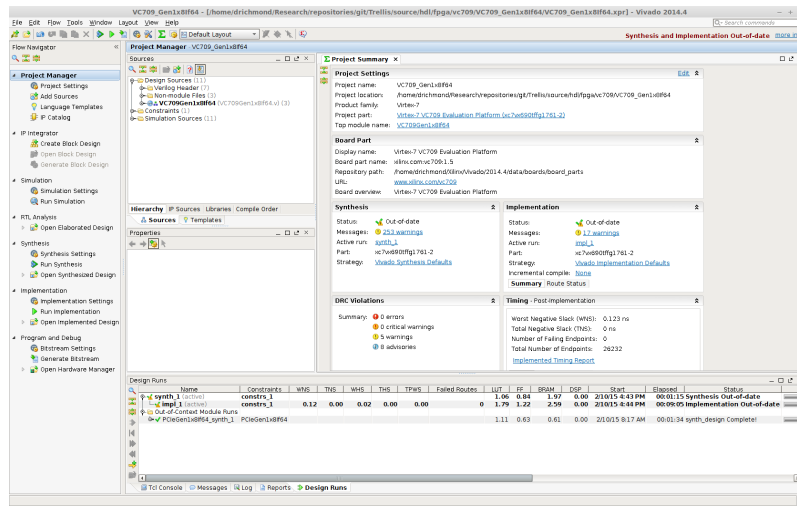
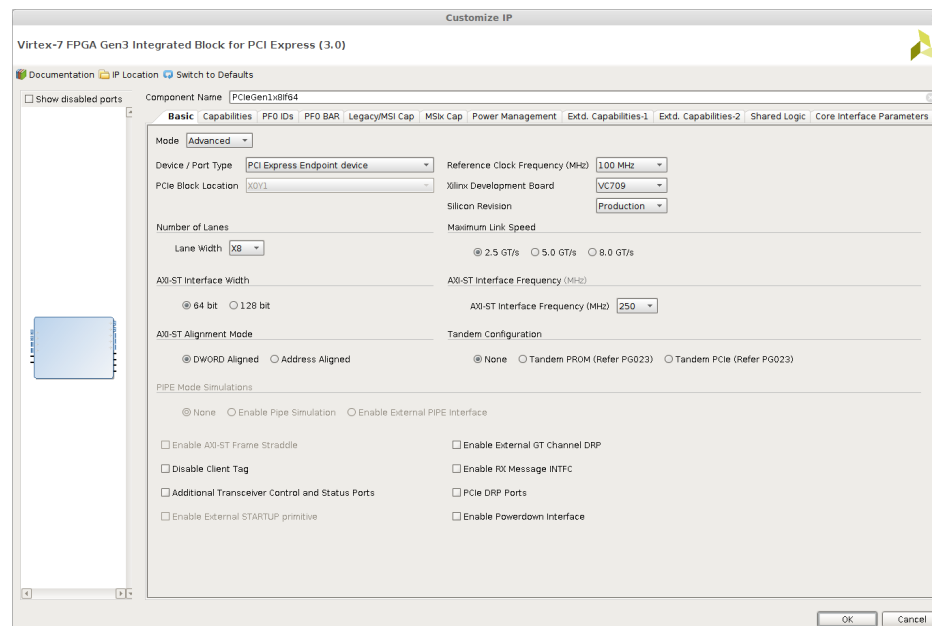

Figure 4.11: Project Splash Screen for Gen3 Integrated Block for PCI Express Projects
Figure 4.12: Basic settings tab.
3. In the RIFFA 2.2.2 distribution, open *RIFFA 2.2.2/source/fpga/xilinx/vc709/* and choose from one of the existing example design directories for your board. In the example design directory, locate the *prj* folder and open it. Select the .xpr file and click open. This will open the example project, as shown in Figure 4.11.
- To recompile the example design, click the generate bitstream button in the top left corner as shown in Figure 4.11.
To generate the PCIe IP select the 7 Series Integrated Block for PCI Express after selecting the IP Catalog shown in Figure 4.11. This will open the IP Customization window as shown in Figure 4.12
Optional: Set the Component Name of the PCI Express block, and the IP Location. In our example projects, we use the name template PCIeGen**W**x**Y**If**Z** where **W** is the PCI Express Version (**Link Speed** in Figure 4.12), **Y** is the lane width, and **Z** is the AXI interface width. The IP location is the *ip* directory in the example project.
Optional: Set the Component Name of the PCI Express block, and the IP Location. In our example projects, we typically use the name PCIeGen**W**x**Y**if**Z** where **W** is the PCI Express Version (**Link Speed** in Figure 4.12), **Y** is the lane width, and **Z** is the Avalon interface width. The IP location is the *ip/* directory in the example project.